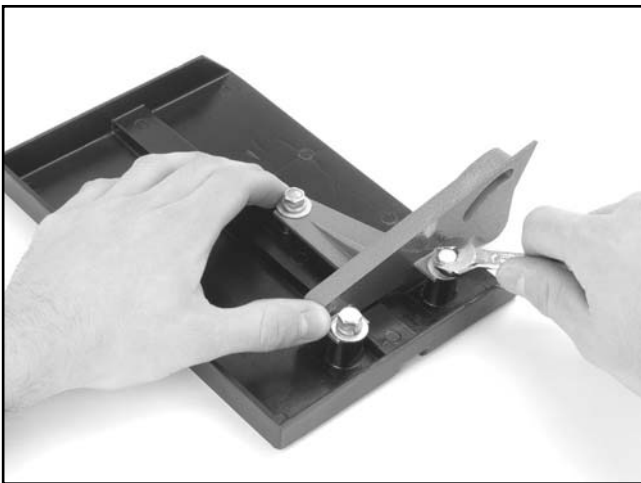

Figure 5. Bolting the table support to the disc table.
3. Screw the hex bolts with washers through the table support and into the disc table as shown in **Figure 5**.